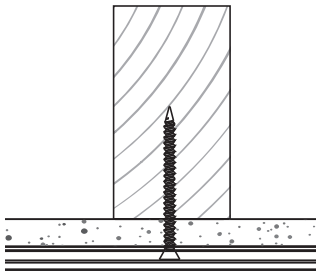

Fig. 10
- o Use supplied #10 countersunk wood screws when ViewTrack holes align with wood stud centers as shown in **Figure 10**.